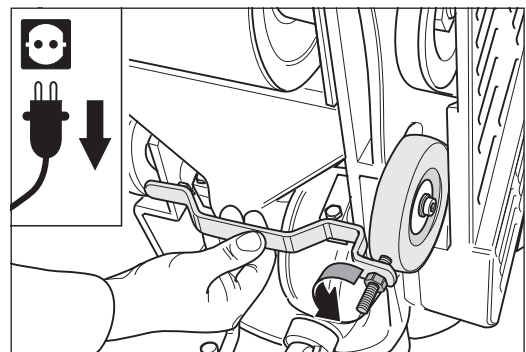

Fig. 74 Take the actual position of the adjustable wheel using the setting fixture (right-hand wheel seen from below).
- 4 For setting, first take the actual position of the adjustable wheel using the setting fixture (right-hand wheel seen from below). Position the fixture against the machine housing in such a way that it rests not only against the machine housing on both sides, but also at the adjustable wheel. If necessary, turn the threaded pin of the setting device. To do this, release the nut of the setting fixture (Fig. 74).